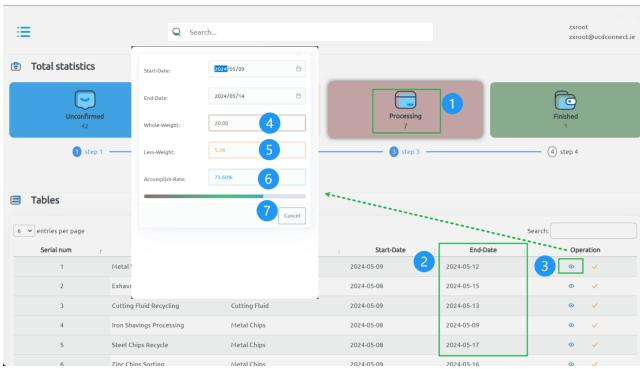

Figure 17: Processing table
- In **Figure 17**, you can see all “**Processing Orders**” and manage them. Click box[1] can switch to the processing table, the “**End-Date**”[2] refer to the estimated date of completion, it relies on machine learning, *eyes icon*[3] will see the current order processing progress, number[4] is whole original weight of this order, number[5] is remaining unhandled weight, number[6] is the accomplish rate, bar[7] is the dynamic progress bar for improved aesthetics. The order will automatically switch status on the expected completion date, or the order can be finished in advance through the waste manager, and the occupied processing resources will be released once the current order is finished.